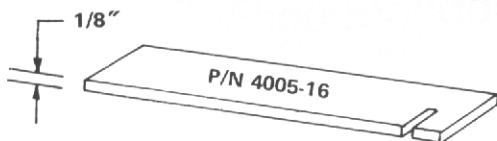

FIGURE 2
3. Using tool 4005.16, check the lever height. (See figure 2).